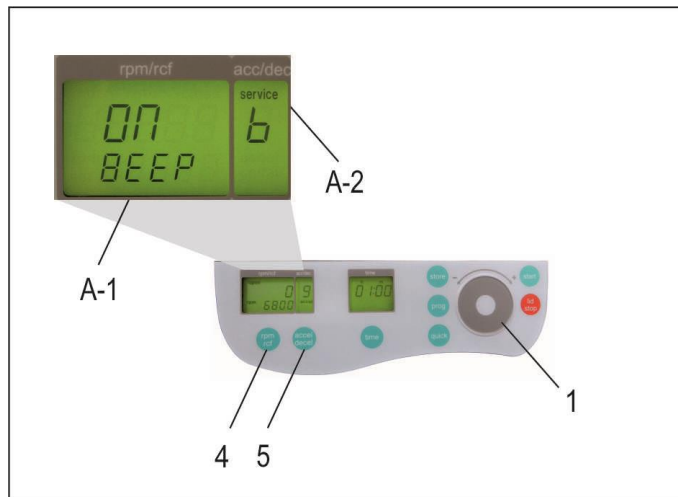

Figure 4
Proceed as illustrated, under point 1.8.2, to enter this program mode, press the key, "accel/decel" (5). In the display, "accel/decel" (A-2) flashes the word, "service". Select the letter "b" with the control field (1). As a result, appearing in the display, "rpm/rcf" (A-1), the word "ON/BEEP". After pressing the key, "rpm/rcf" (4), turn the keyboard sound (On) or (Off), with the rotary field (1), (see Figure 4).
After not using the centrifuge for 5 minutes, the display automatically switches off. By pressing any bottom, it switches on again. Proceed as illustrated, under point 1.8.2, to enter this program mode, press the key, "accel/decel" (5). In the display, "accel/decel" (A-2) flashes the word, "service". Select the letter "I" with the control field (1). As a result, appearing in the display, "rpm/rcf" (A-1), the word "SLEEP". After pressing the key, "rpm/rcf" (4), turn the sleep mode function (On) or (Off), with the rotary field (1), (see Figure 4).
The list of the last 99 error messages can be looked over by pressing the key "rpm/rcf" (4) and leaf through it with the control field (1). The respective error codes appear in the display "rpm/rc" (A-1) (see Figure 4). The first two numbers indicate the appeared errors ongoing from 00 to 99, the last two numbers indicate the error code. Please refer to, "table 2: error messages" (see APPENDIX IV).